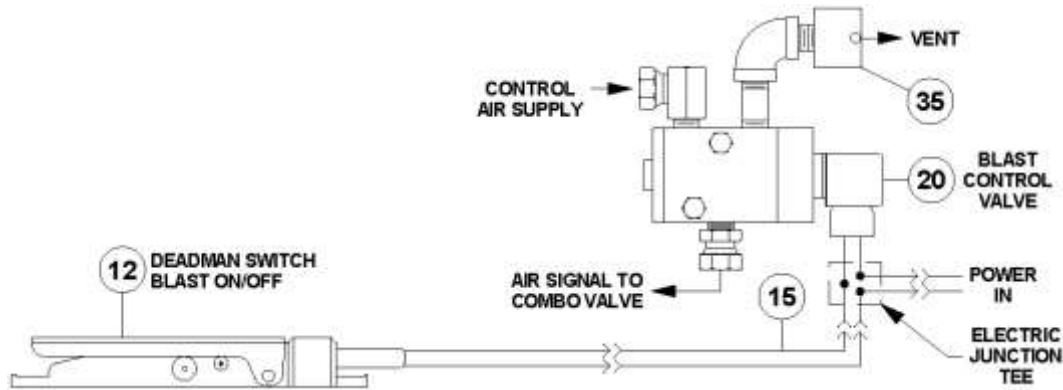
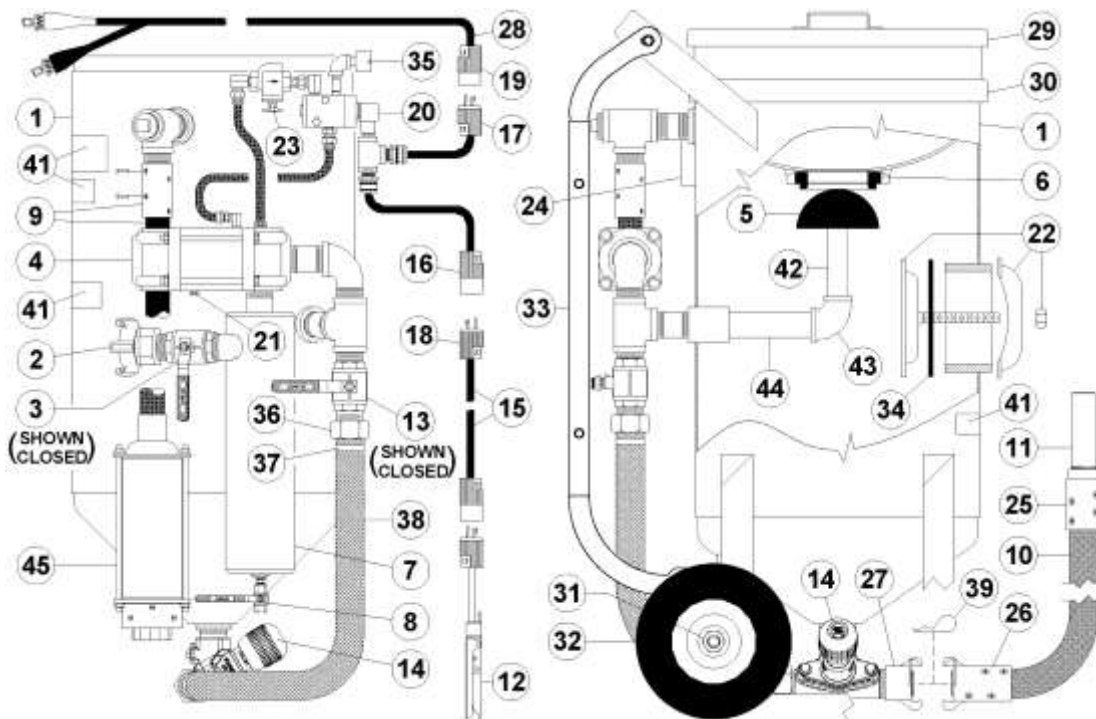

Figure 5.4 – MV3 Valve Electric Deadman Blast Control System
Figure 5.5 – MV3 Valve Abrasive Blaster with electric blast controls
5.8.2. Electric Deadman System: When the electric deadman lever (#12) is pressed down it closes the electric circuit and supplies electric current to the control valve (#20). The control valve opens and sends air signals to the ComboValve® (#4) to begin blasting. When the deadman lever is released, the electric circuit is turned off which closes the control valve. The signal air vents from the breather (#35) and the ComboValve closes to stop blasting. See Figure 5.4, Figure 5.5, and the drawing in Section 9.3.
Figure 5.5 shows a MV3® Valve abrasive blaster with the electric deadman system. The popup valve, MV3 Valve, and ComboValve operate the same as a blaster with a pneumatic blast control system. The difference is that the electric control system uses an electric control valve (#20) operated by the electric deadman switch as detailed in Section 5.8.2.